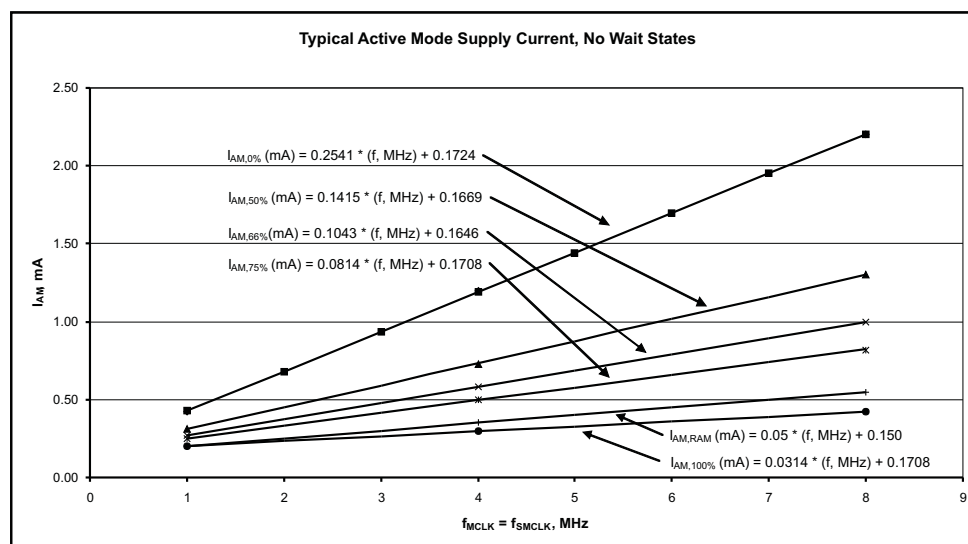

Figure 5-1. Typical Active Mode Supply Currents, No Wait States
- (7) See Figure 5-1 for typical curves. Each characteristic equation shown in the graph is computed using the least squares method for best linear fit using the typical data shown in Section 5.4.